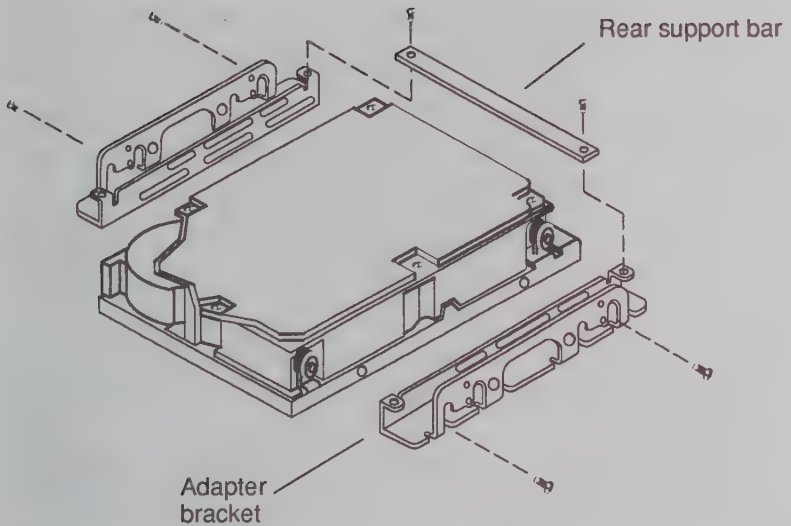

Figure 3 Attaching Adapter Brackets to a 3.5-Inch SCSI Drive
3. Insert a second screw through the rear slot on the bracket into the hole near the rear of the device. Tighten this screw enough to hold the bracket in position. See Figure 3.